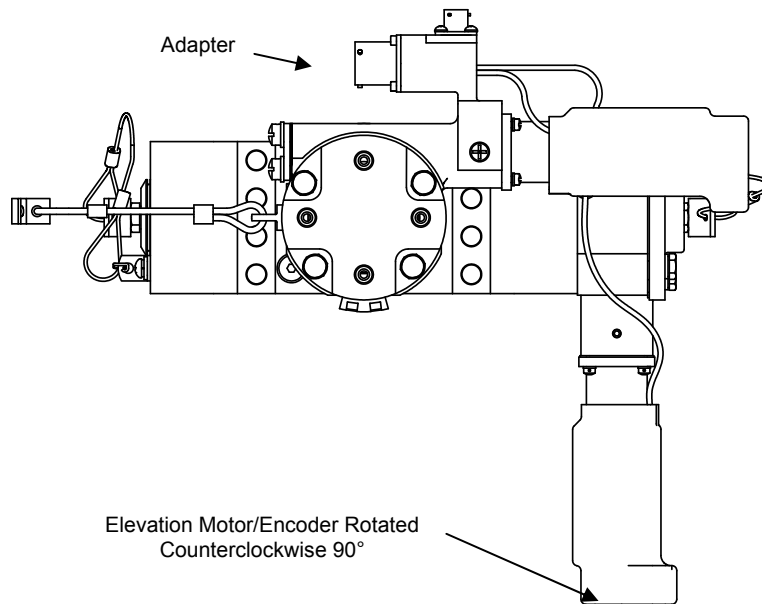

Figure 9. Top View of SX-5 Starburst Gimbal Assembly with Elevation Motor/Encoder Rotated 90°
- Using the same mounting location and screw holes that held the old adapter to the Gimbal, attach the new adapter to the Gimbal (Figure 9).
- Using the same mounting locations and screw holes that were used for the old motors, attach the new motor/encoders for azimuth and elevation (Figures 9 and 10).
- (1) Rotate the elevation motor/encoder counterclockwise 90° using the mounting location described above and as shown in Figures 9 and 10.